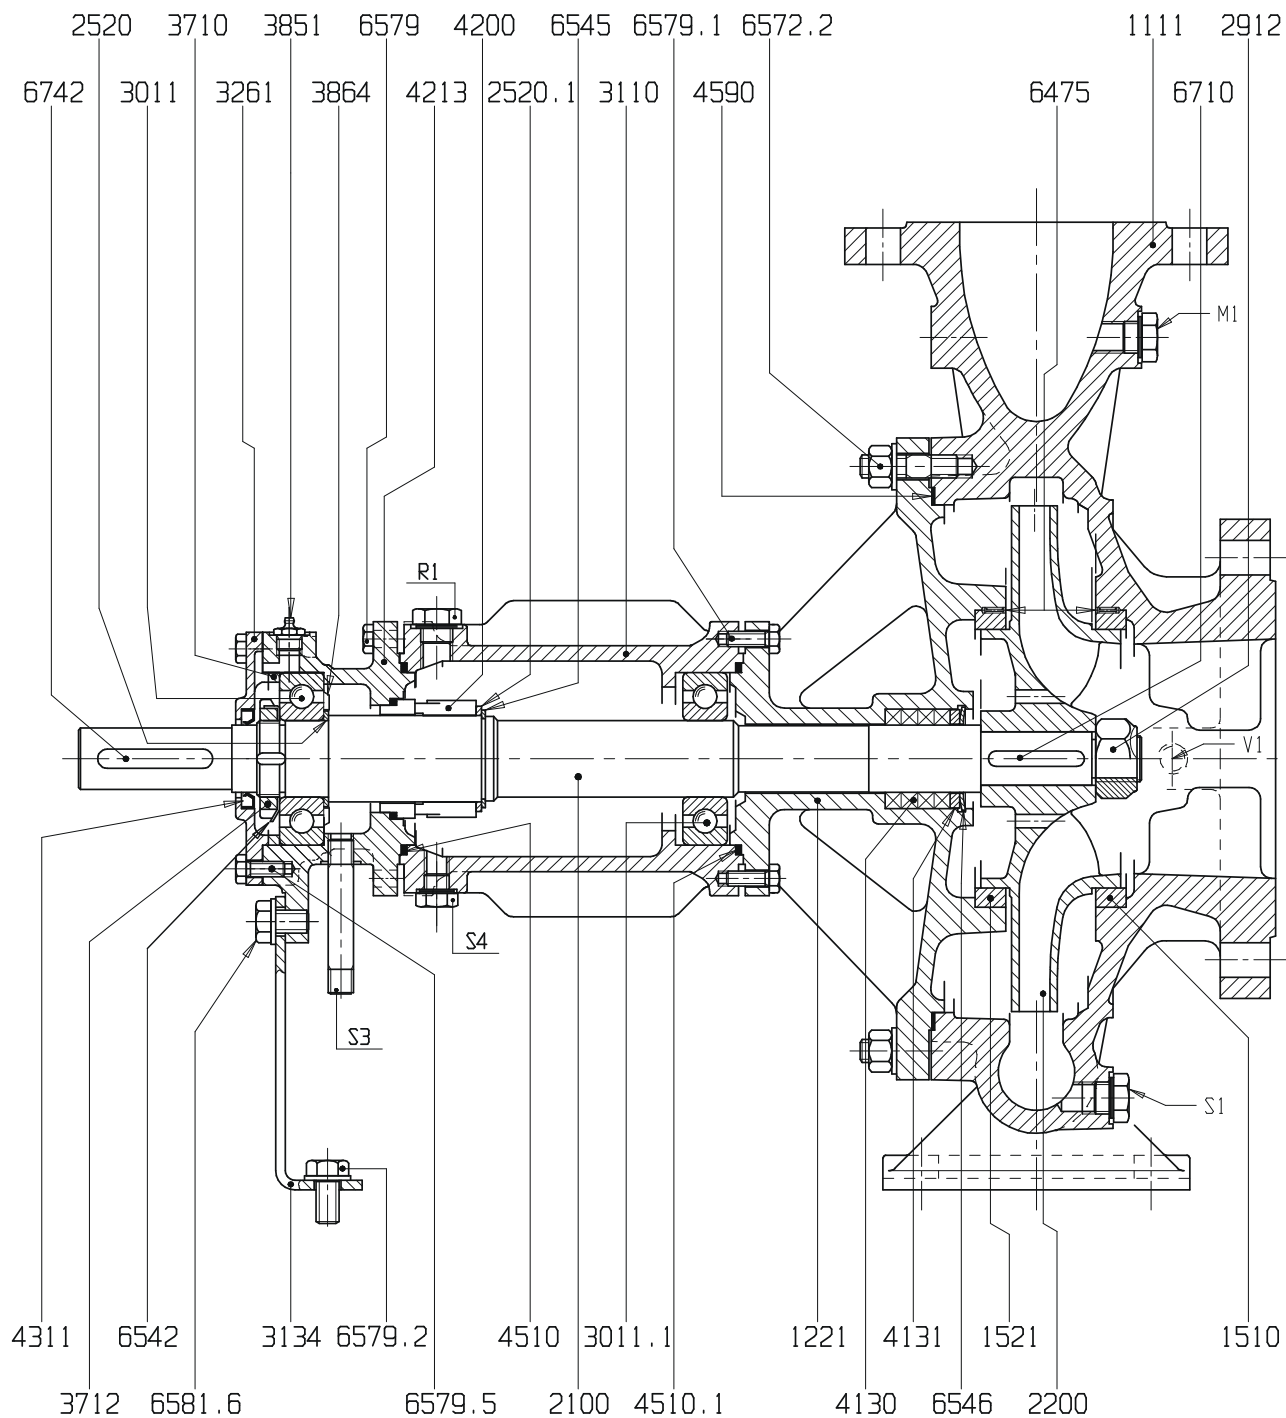

fig. 6
Before carrying out the aligning operations, loosen and tighten again the screws of the support foot 6581.6 (fig. 6).
6.2.1 Coupling side bearing (pos. 3011 - fig.6)
6.2.2 Pump side bearing (pos.3011.1 - fig.6)
6.5 DISASSEMBLY (REF. FIG. 6)